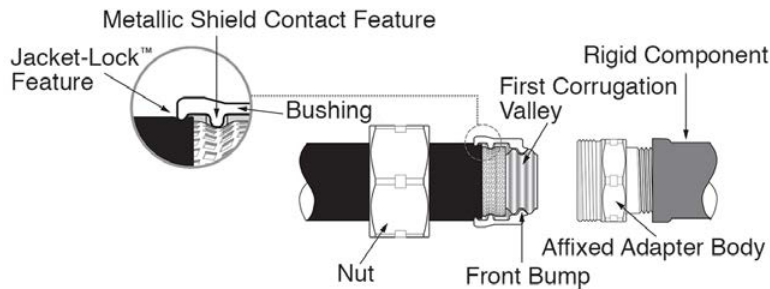

Fig. 4-12
STEP 3 INSTALL NUT AND BUSHINGS (FIG. 4-12)